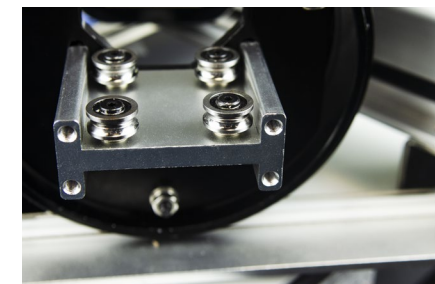

Figure 39
4. The cap driver is equipped with four small wheels that slide onto the rail underneath the sewing arm of the machine. Position the cap driver in line with the railing, making sure all the wheels are aligned. **See Figure 39.**